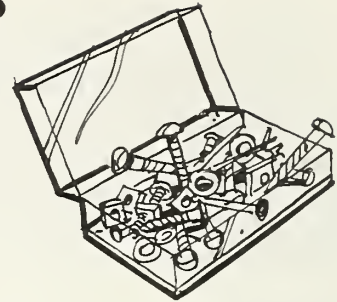

Fig. 1
**Box nails** have large heads. Use them for rough work when appearance doesn't matter. (Fig 1.)